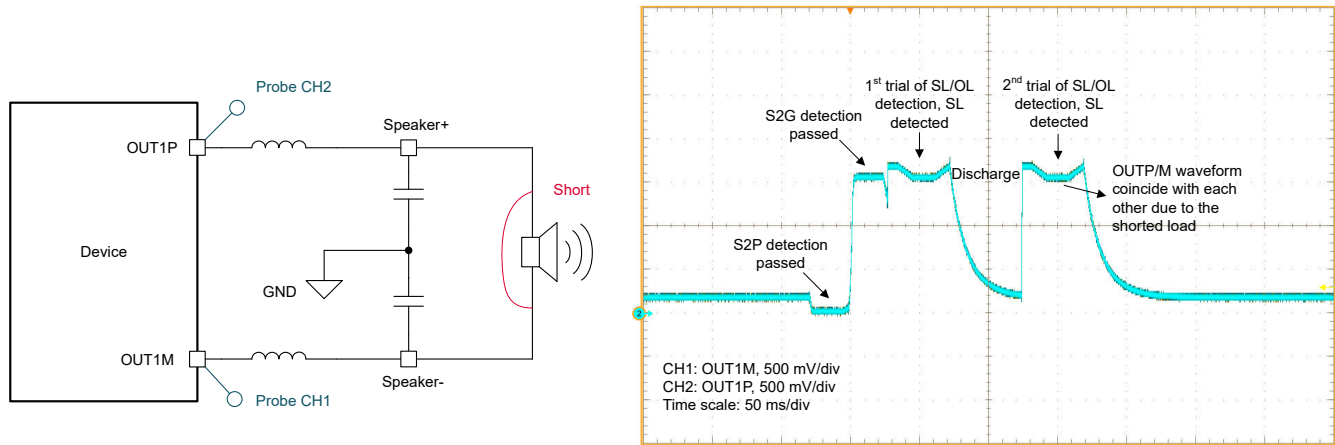

Figure 2-11. DC Load Diagnostic Waveform With a SL Fault
Figure 2-11 shows the waveforms of an shorted load (SL) fault load condition in the case where the DC load diagnostic is run on a single channel. The waveform shows that during the *SL/OL detection*, the phase voltage across the OUT1P and OUT1M pins is almost zero because of the shorted load condition. Thus an SL fault is reported. An automatic retry is executed after the fault was detected in the first trial to verify the fault.